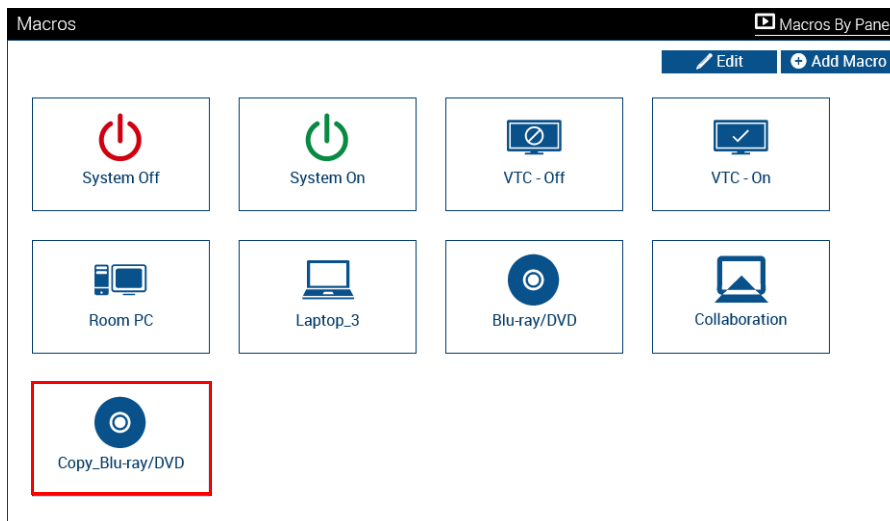

FIG. 75 Macros page with "Copy_Blu-ray/DVD" macro
4. The new (copied) macro is added to the Macros page (see "*Copy_Blu-ray/DVD*" in FIG. 75):
6. Click **Save** to save this macro and return to the main *Macros* page (FIG. 75 on page 43).